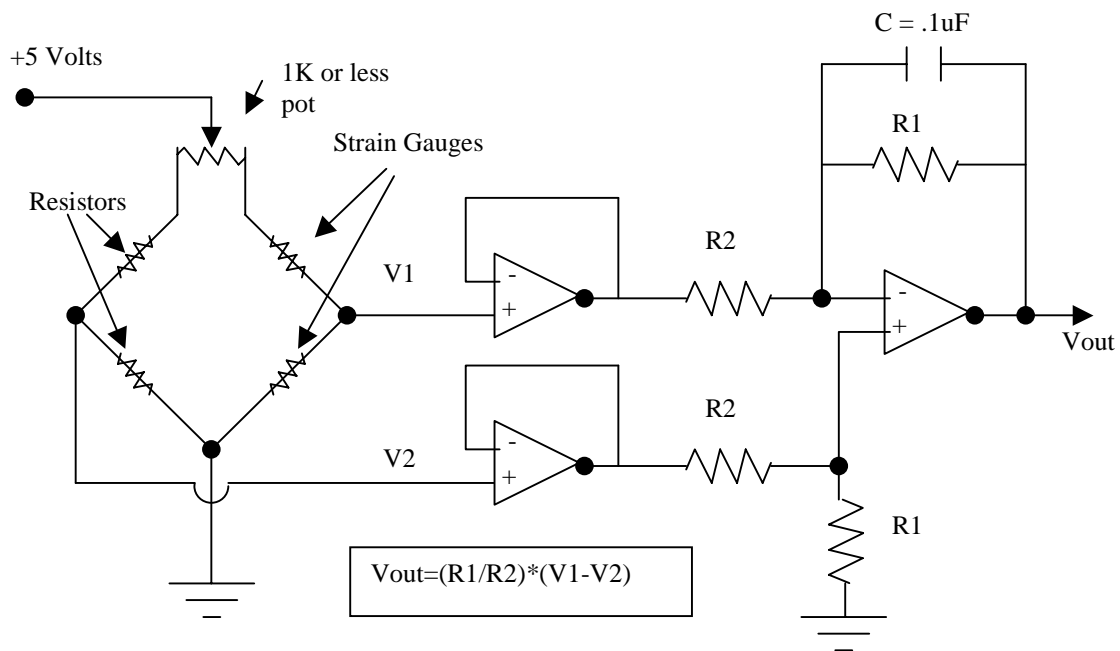

Figure 1. Strain-Gauge and Amplifier Circuit.
6. Connect the wires in a bridge configuration, as seen in the left half of figure 1.
7. The strain gauges will provide a very weak signal. You will want to boost this signal to obtain usable results. Connect the bridge to the instrumentation amplifier shown in the right half of figure 1. Additionally, you may need to apply one or two amplifier stages after the stage shown below in order to boost the signal. Don't be afraid to apply capacitors to your amplifier stages to filter the signal.